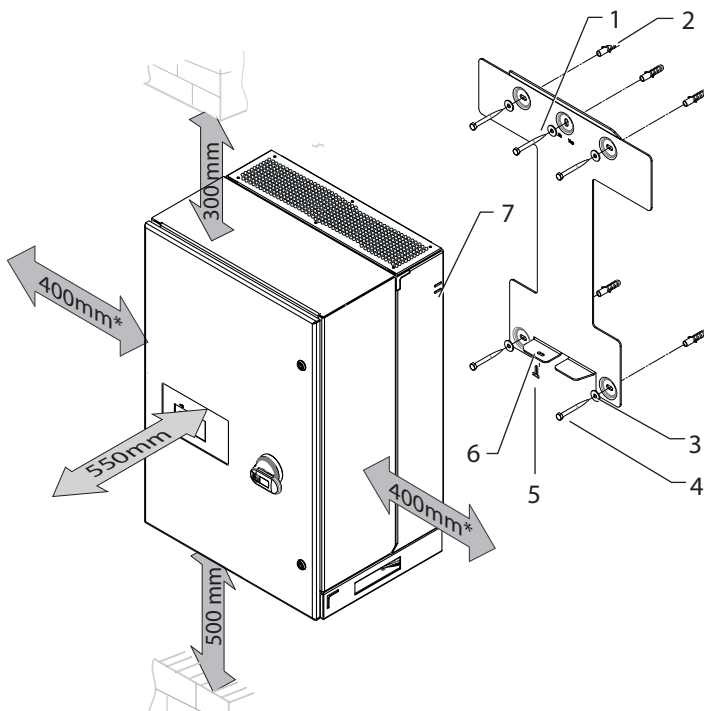

Figure 11: Minimum clearances/mounting
- Minimum clearances to be observed during assembly: see Figure 11 on page 15.